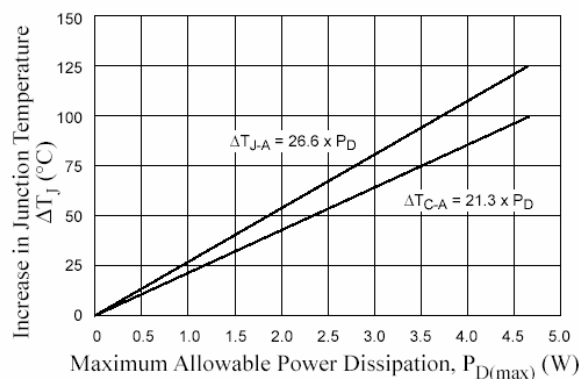

Figure 13. Temperature increase
Based on the  $P_D$  calculated using the above formulas, the expected increase in operating junction temperature,  $\Delta T_J$ , of the IC can be estimated using figure 13. This result must be added to the worst case ambient temperature when operating,  $T_{A(max)}$ . Based on the calculation, there is no problem unless  $T_{A(max)} + \Delta T_J > 150^\circ\text{C}$ .
5. Refer to figure 13 and locate the value found in step 4 on the  $\Delta T_{CA}$  trace.